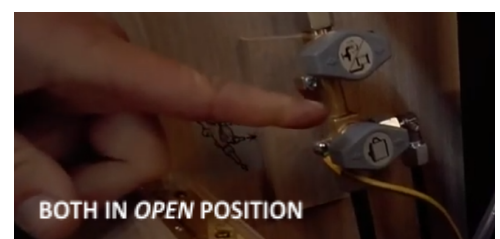

Fig. 5 – Shut-off valves
1. Open the gas bottle shut-off valve (Fig.4.2, item 1) and the corresponding appliance shut-off valve (Fig.5) on the valve block.